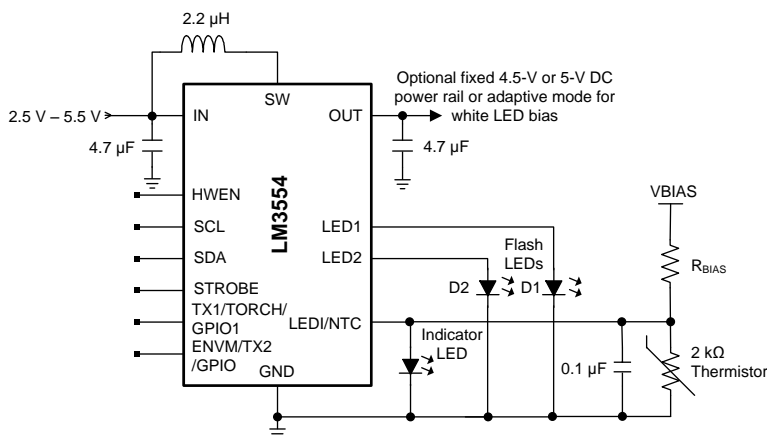

Figure 41. LM3554 Typical Application
Choosing the correct size and type of input capacitor helps minimize the voltage ripple caused by the device boost converter switching and reduces noise on the device's input terminal that can feed through and disrupt internal analog signals. In Figure 41 a 4.7-μF ceramic input capacitor works well. It is important to place the input capacitor as close to the device input (IN) terminals as possible. This reduces the series resistance and inductance that can inject noise into the device due to the input switching currents. Table 12 lists various input capacitors that are recommended for use with the LM3554.